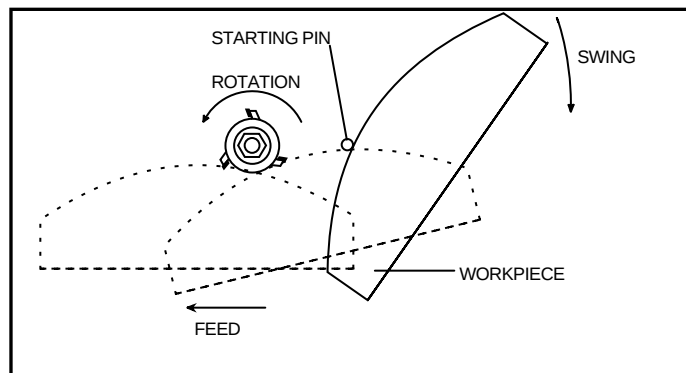

Figure 23
2. The work should be placed in the starting position using the guide pin for support, as shown in Figure 23. Next, swing the work into the cutter while holding the workpiece firmly against the starting pin.
3. After the cut has been started, the work is swung away from the starting pin and is supported just by the collar, as shown by the broken line positions in Figure 23. **ALWAYS FEED AGAINST THE ROTATION OF THE CUTTER.**